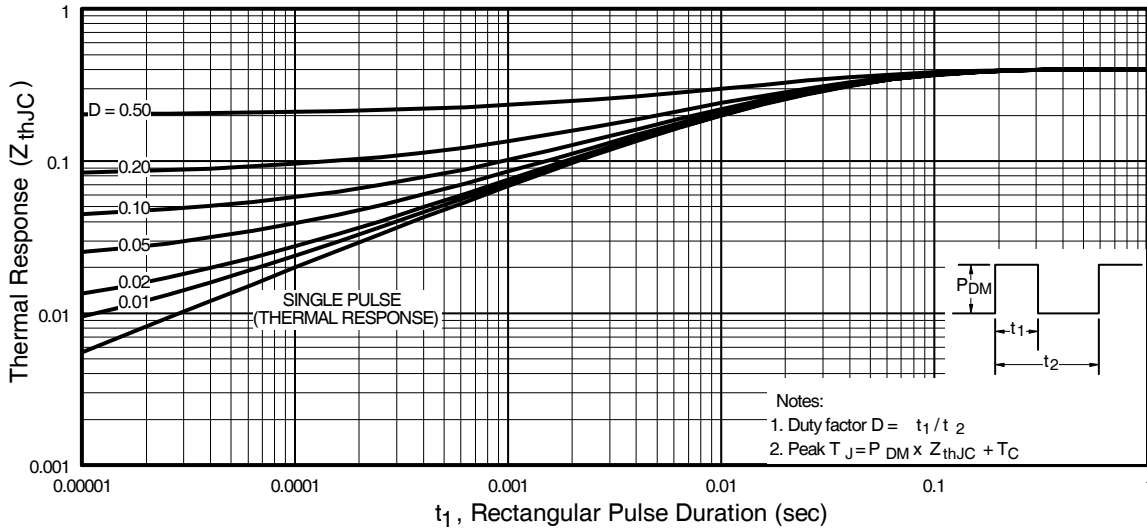

Fig 11. Maximum Effective Transient Thermal Impedance, Junction-to-Case
- ① Repetitive rating; pulse width limited by max. junction temperature. (See fig. 11).
- ② Starting T_J = 25°C, L = 0.21mH
$Z_{thJC}(D, t_{av})$ = Transient thermal resistance, see figure 11)